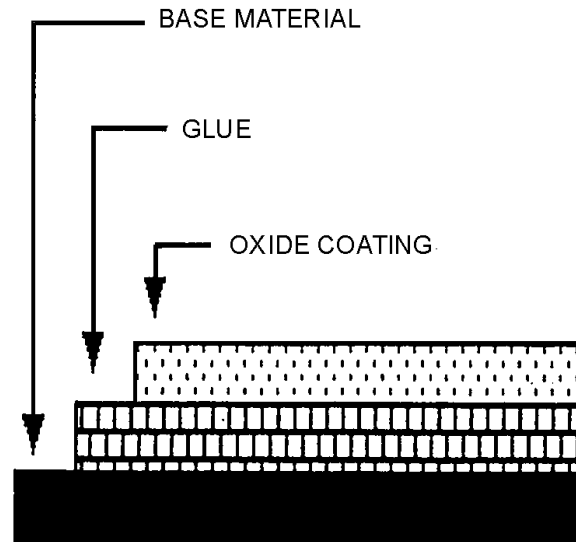

Figure 2-1.—Magnetic tape construction.
The three basic materials used to make magnetic tape are (1) the base material, (2) the coating of magnetic oxide particles, and (3) the glue to bind the oxide particles onto the base material. See figure 2-1.